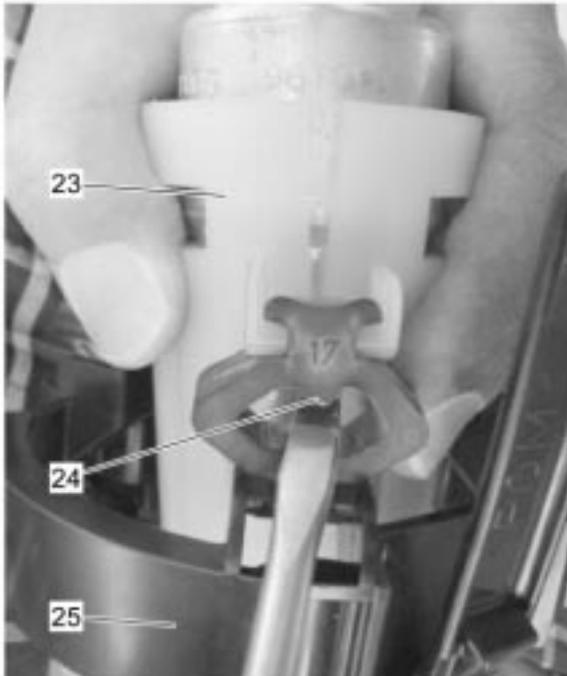

Fig. 7
- Use a screwdriver to lever the upper section of the three rubber buffers (24) out of the sleeve. Push the triangular indentation from back to top when doing so (see → fig. 7).
- Pull the pump and sleeve (23) upwards and out of the bracket (25).
- The pump is secured to the sleeve with a stay (22) (see → fig. 7). Remove the stay (22).
- Die Pumpe ist mit einem Bügel (22) in der Hülse gesichert (siehe → Abb. 7). Den Bügel (22) entfernen.